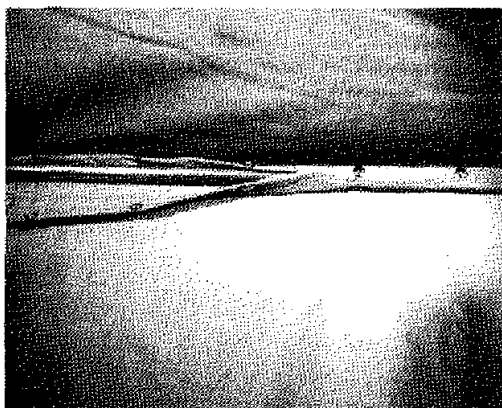

Fig. 3
7. Enter camper, position center tent bow into vertical position, and into canvas pocket (Figure 3), and close snaps.